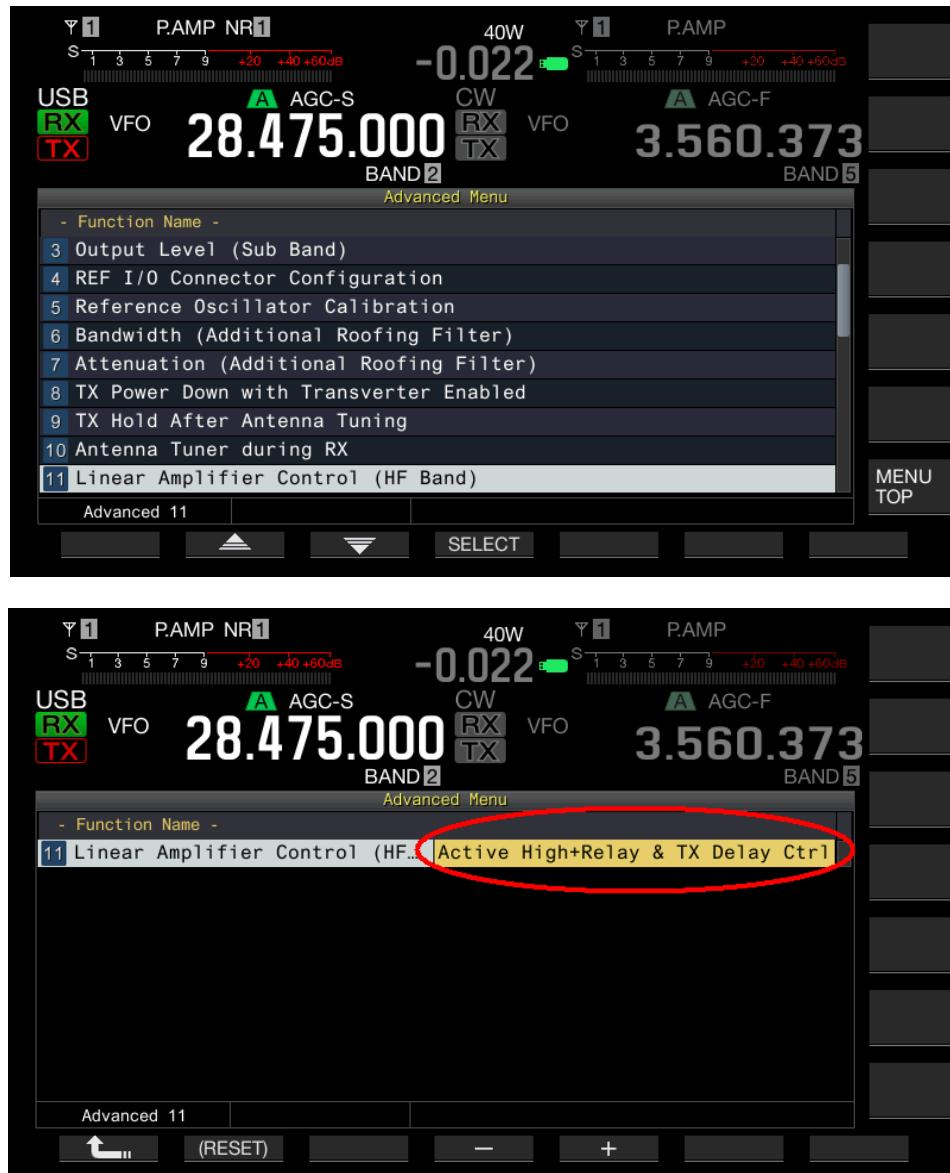

Figure 1: TS-990 Menu Settings for Linear Amplifier Control
1. Set the TS-990 HF linear amplifier control to "Active High+Relay & TX Delay Ctrl" by navigating to Item 11 on the Advanced Menu (Menu, Advanced) as shown in Figure 1.